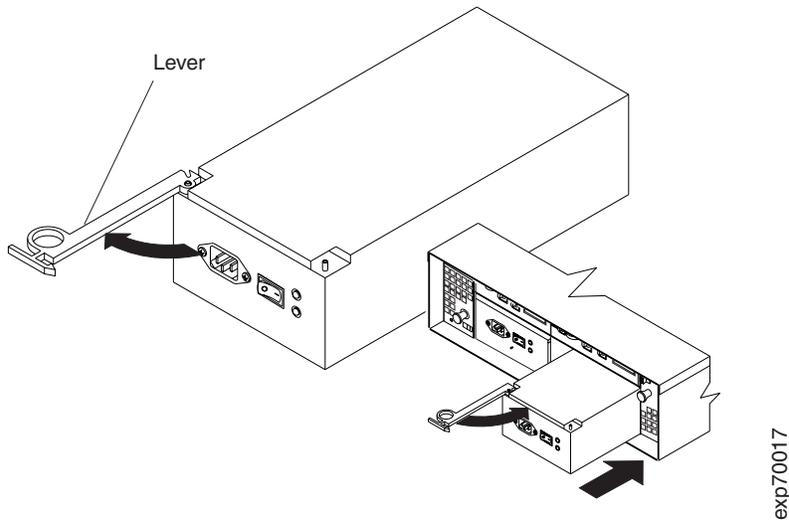

Figure 17. Replacing a power-supply CRU
1. Slide one power supply into the expansion unit. Be sure the levers are pulled straight out as you slide the power supply into the expansion unit, as shown in Figure 17 on page 28.